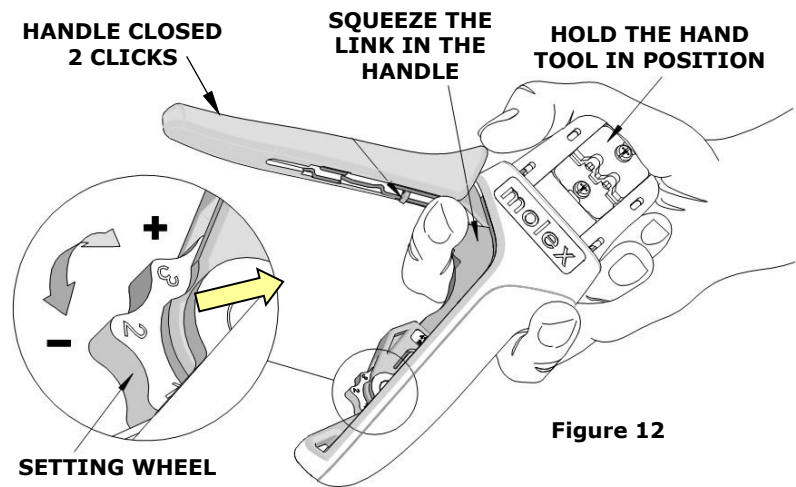

Figure 12
How to Adjust Tool Preload (See Figure 12)
3. Hold the hand tool in the palm of your hand as shown in Figure 12. Using your index finger, squeeze the link toward the top of the hand tool frame. This will release the preload adjustment wheel.
4. Rotate the setting wheel counterclockwise (CCW) to increase handle force. The numbers will display higher. To decrease handle force, rotate the setting wheel clockwise (CW).